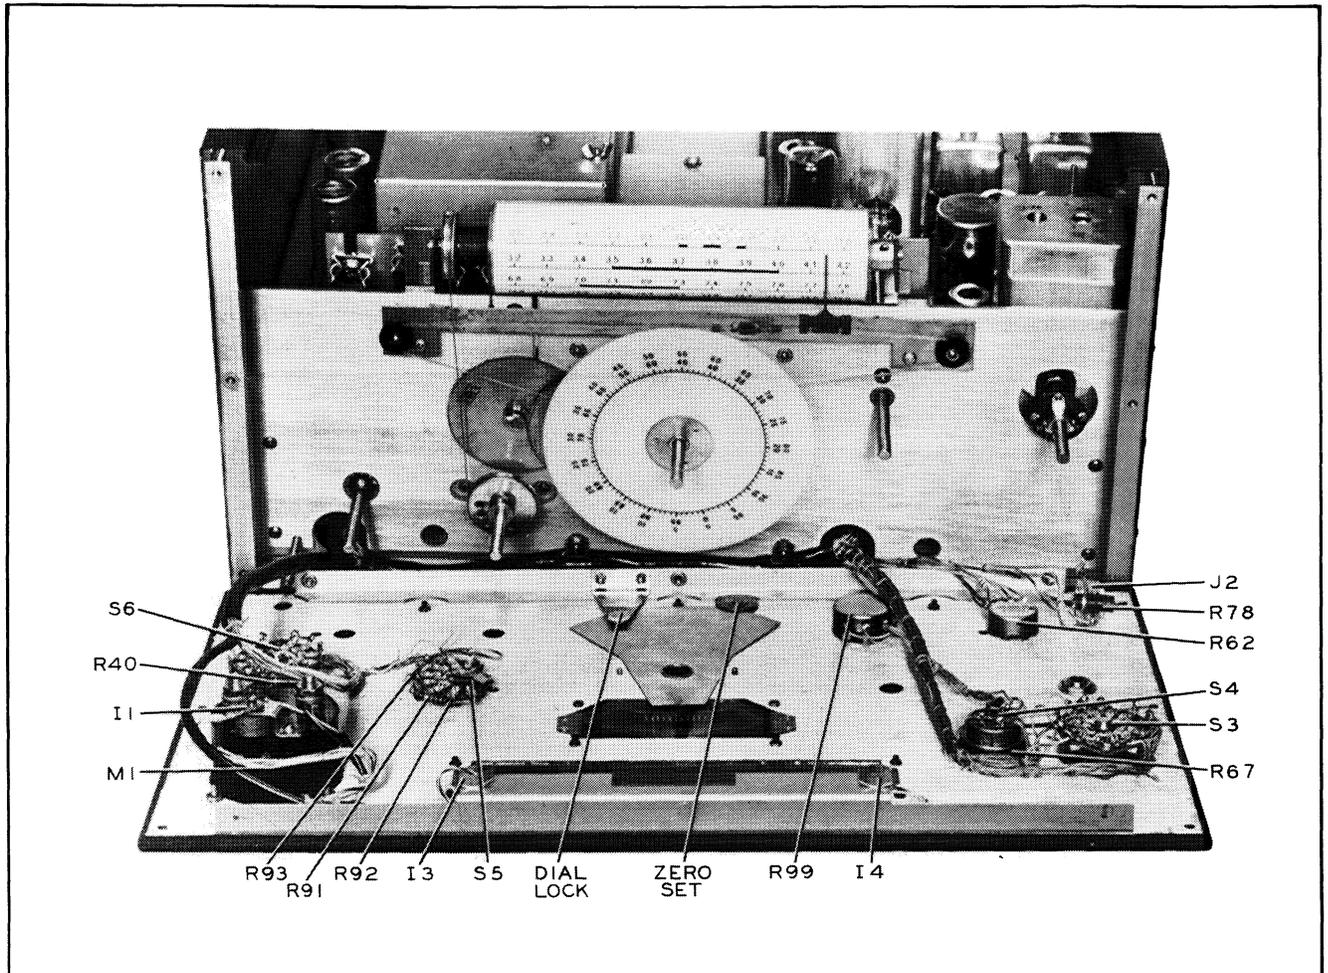

Figure 5-4. 75A-4, Front Panel Lowered
- a. REMOVING FRONT PANEL. (See figure 5-4).
- (1) Remove the six panel screws.
- (2) Remove the following knobs: